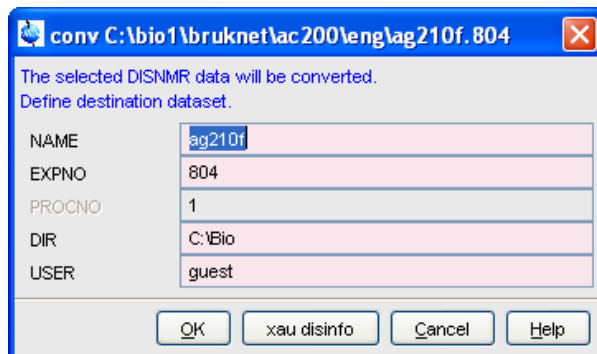

Figure 12.1
3. In the appearing dialog box (see Figure 12.1)
The dialog box in Figure 12.1 shows the button *xau disinfor*. Clicking this button executes the corresponding AU program showing the relevant dataset parameters.